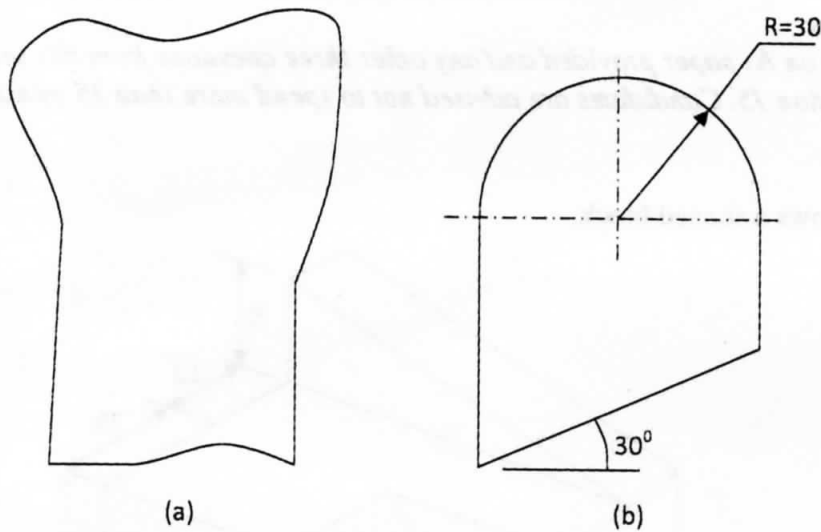

Figure 3
(b) **Figure 3** (a) shows a surface of an irregular wooden block.
- (i) Outline the construction procedure to produce the shape in figure 3 (b). (7 marks)
- (ii) Construct and mark out the shape shown in figure 3 (b). (5 marks)